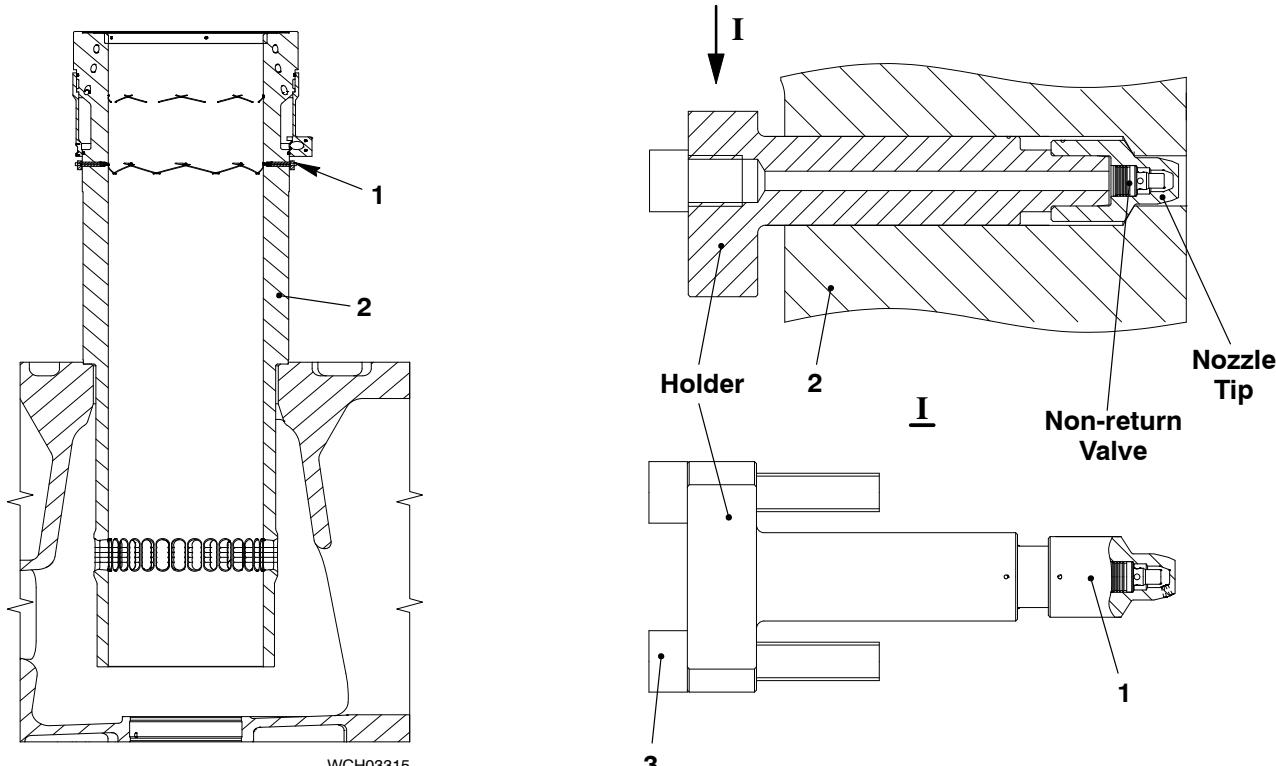

Fig. 4
- 3) Apply oil to the threads and surfaces of the screws (3, Fig. 4).
- 4) Put the lubricating quill (1) in position in the cylinder liner (2).
- 5) Torque the two screws (3) to 10 Nm.